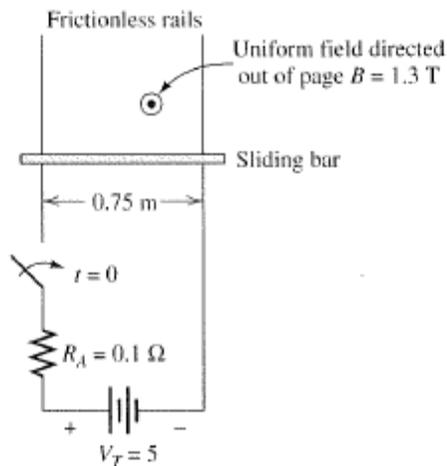

Figure P16.23
- *P16.23.** Consider the linear dc machine of Figure P16.23. When the switch closes, is the force on the bar toward the top of the page or toward the bottom? Determine the magnitude of the initial (starting) force. Also, determine the final velocity of the bar neglecting friction.